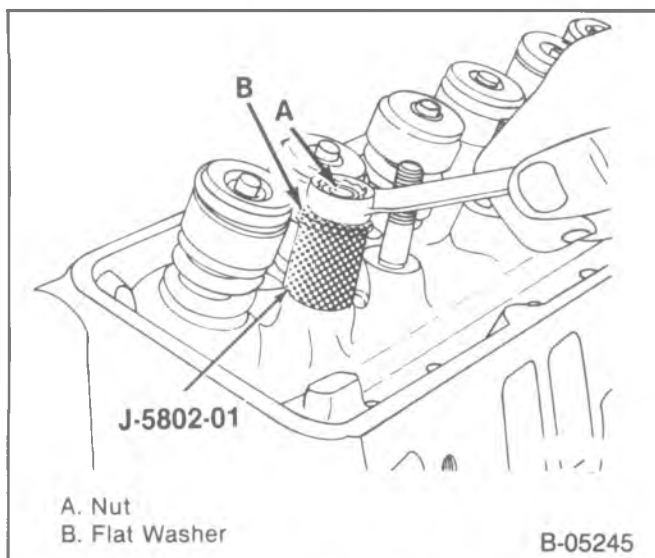

Figure 11—Removing the Rocker Arm Stud
**Remove or Disconnect (Figure 11)**
- Turn the nut to remove the stud (figure 11).